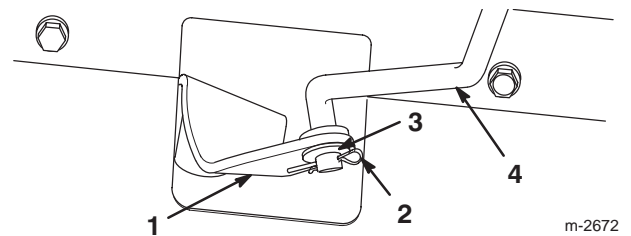
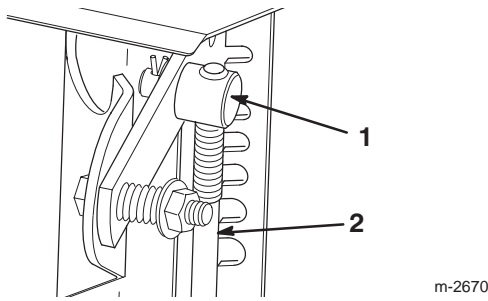

Figure 6
Figure 7
1. Pull the speed selector arm (Fig. 6) to the most outward position.
3. Rotate the speed selector rod in the trunnion (Fig. 7) until the bottom end of the rod can slip into the hole in the speed selector arm (Fig. 6).
4. Install the speed selector rod into the selector arm, add one flat washer on the rod, and secure it with a cotter pin (Fig. 6).